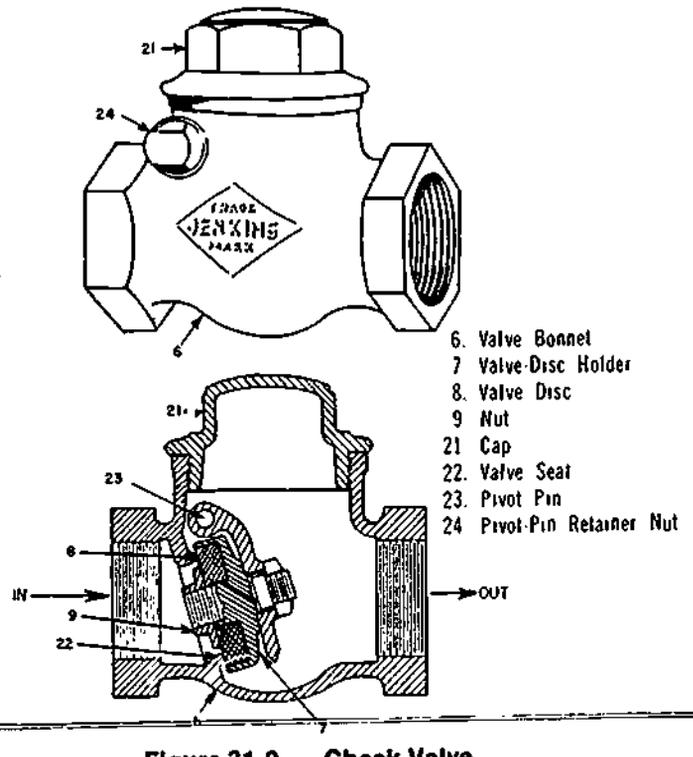

Figure 31-9. Check Valve
96. *Check Valves.* (Refer to Figure 31-9 in the accompanying appendix.) Check valves are used in piping systems to permit flow in one direction but to prevent flow in the reverse direction. They may be used in gas or fluid systems, such as the steam and water systems of sterilizers. When the flow is in the forward direction, the fluid or air causes the valve disc (8) and its holder (7) to swing in the direction of flow, thus opening the valve. When the flow tends to go in reverse, the valve disc is pressed against its seat (22), thus closing the valve to prevent any flow in that direction.